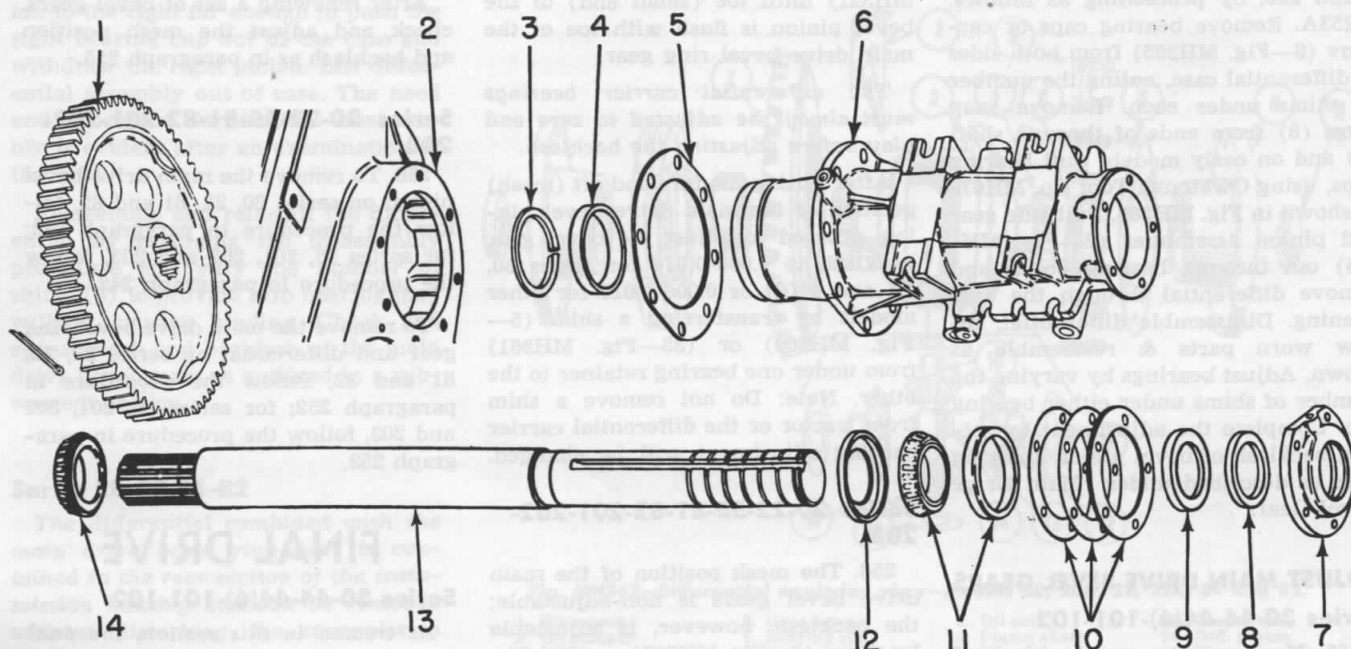

Fig. MH370—Master gear and rear axle—All models except 20, 20K, 22, 22K, 55, 55D, 55K, 55LP, 81, 82, 201, 202, 203 and 203G.
Drain rear housing and remove power take-off shaft and power lift unit if installed. Remove master gear cover plate. Remove cotter pin from master gear hub. Unbolt axle sleeve (6—Fig. MH370) and pull the sleeve and axle shaft assembly out of the master gear and the housing. Remove master gear (1) through top of housing. Renew worn parts and reinstall in reverse order.
After the axle shaft and sleeve assembly is reinstalled on tractor, adjust the bearings to provide zero shaft end play without causing binding, by varying the number of shims (10—Fig. MH370).